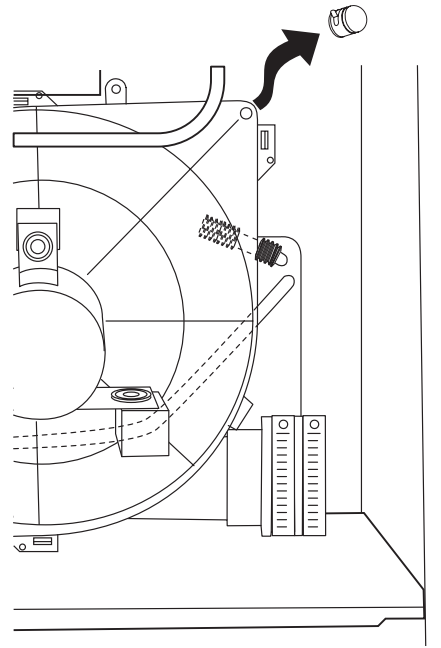

Fig. 14—Inducer Housing Drain Tube Cap
3. Disconnect cap from unused drain tap on inducer housing. (See Fig. 14.)